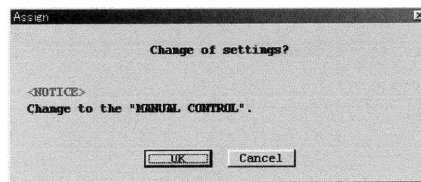

Fig.23
- ④ After filling in all the fields required, click on "OK" button. A message box as shown in Fig. 23 then appears.